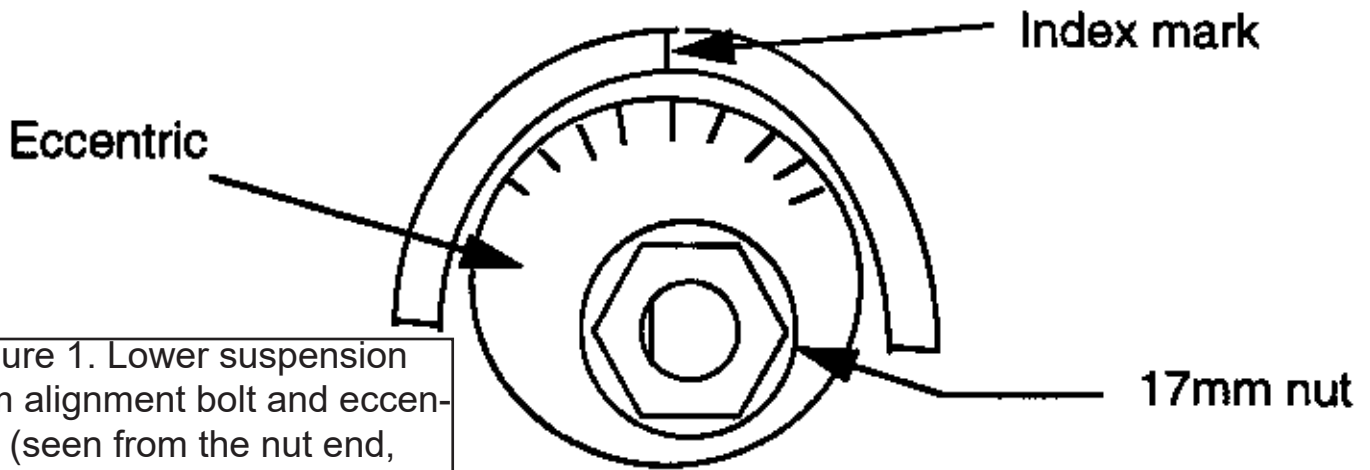

Figure 1. Lower suspension arm alignment bolt and eccentric (seen from the nut end, the bolt end is similar)
1. If possible, the day before you install the brace, slide under the rear of the Miata and spray a little penetrating oil on the four nuts that will be removed for the installation. These four are the two 17mm nuts on the lower, inner ends of the lower suspension arms (see figure 1). Also spray a little on the lower nut of each of the two "U" shaped clamps that hold the bushings for the rear sway bar.
4. Slide under the car and find the other (forward) end of the alignment bolt you sprayed earlier with penetrating oil. Use a rag to clean the area on the eccentric around the bolt head and the little raised semicircle around the eccentric and bolt. Then paint a slim line across the single mark at 12 o'clock and the matching point on the eccentric. This will be your reference point to make sure the alignment can be re-stored if you disturb it. Do this on the front (head end) and back (nut end) of both lower alignment bolts (total of four places). See Figure 1.